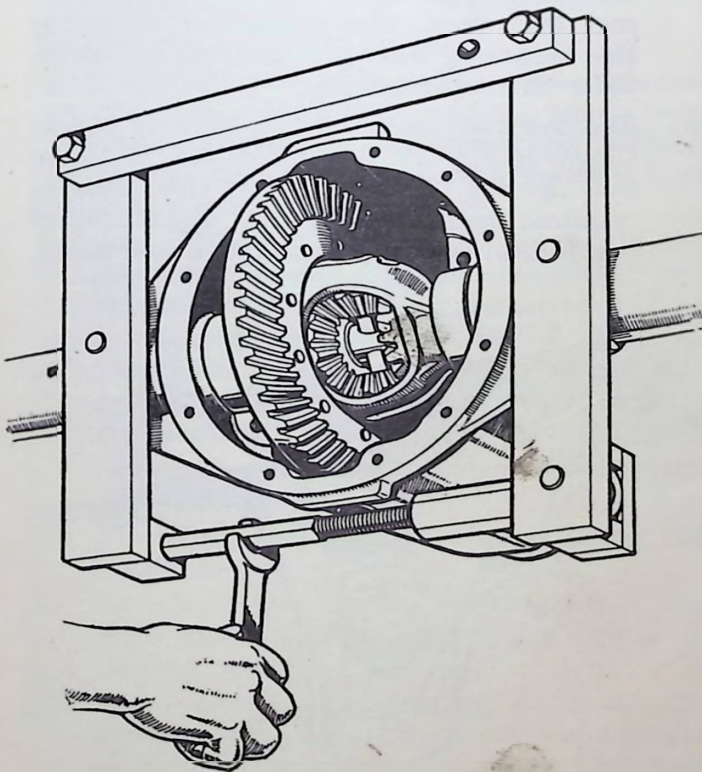

Fig. 19.
- (1) Withdraw the four bolts securing the two differential bearing caps and remove the two caps.
- (2) Before attempting to remove the differential assembly, fit the stretching fixture, Tool No. SE.104 in the Service Tool List, as shown in Fig. 19. The fixture should be adjusted to suit the model being serviced, a series of holes being provided in the member opposite the turnbuckles for this purpose. Open the fixture by means of the turnbuckle until it is hand tight, then spread the case by using a spanner. **DO NOT OVER-SPREAD, OR THE AXLE CASING WILL BE DAMAGED BEYOND REPAIR.** The correct spread does not exceed a half turn on the turnbuckle, and this figure should not be exceeded even if the differential is still stiff to remove.
- (3) The differential assembly may now be prised out by means of two levers, one on each side of the differential case opening. During this operation use suitable packing between the levers and the gear carrier.
- (7) To facilitate installation of the differential assembly, fit the stretching fixture, *Tool No. SE.104* in the *Service Tool List*, as shown in *Fig. 19*. Stretch the gear carrier, being sure not to exceed the half turn specified on the turnbuckle or the axle casing will be damaged beyond repair.
- (8) Lower the differential assembly into position, lightly tapping the bearings home with a hide hammer, whilst ensuring that the gear teeth are led into mesh with those of the pinion. Careless handling at this stage may result in bruising the gear teeth, and removal of the consequent damage can only be partially successful and result in inferior performance.